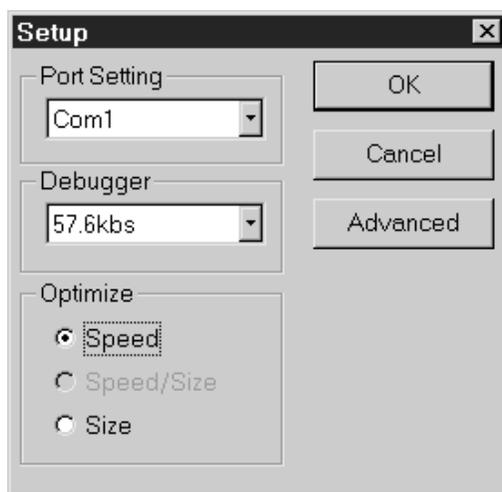

Figure 1 - Setting the port speed
5. Go to Tools : System Setup and choose the serial port to be used for connecting the development board (see Figure 1). Close the program.